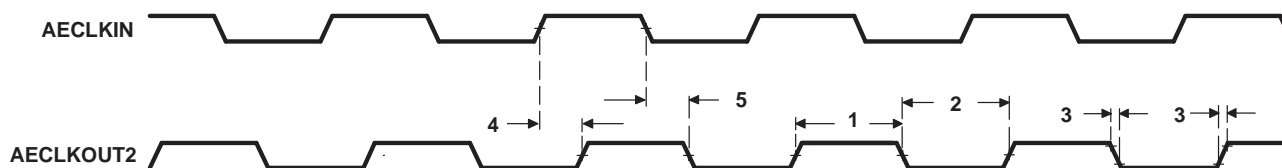

Figure 5-16. AECLKOUT2 Timing for the EMIFA Module
Table 5-20. Switching Characteristics Over Recommended Operating Conditions for AECLKOUT2 for the EMIFA Module^{(1) (2)} (see Figure 5-16)